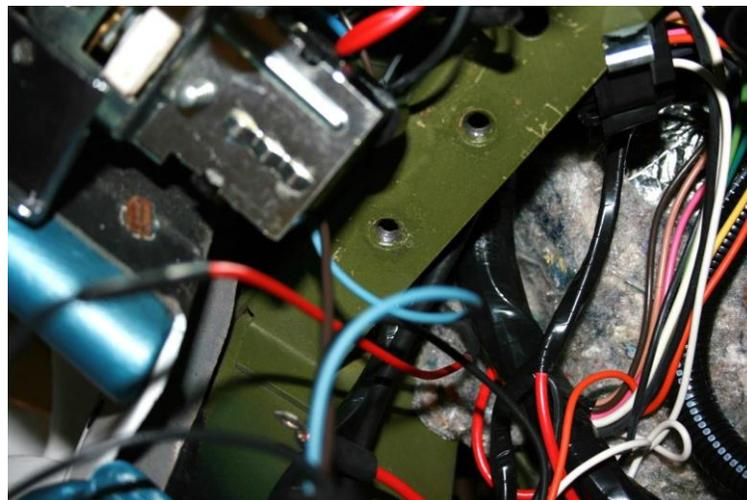

Figure 13 – Locate Module under Dash
28. The Detroit Speed Electric Headlight Door Kit Control Module bracket is designed to be mounted to the two threaded holes on the far left side of the dash just above the driver's side kick panel (Figure 13). If the vehicle has the hood release cable bracket mounted in these holes, remove the two bolts that hold the hood release cable bracket.